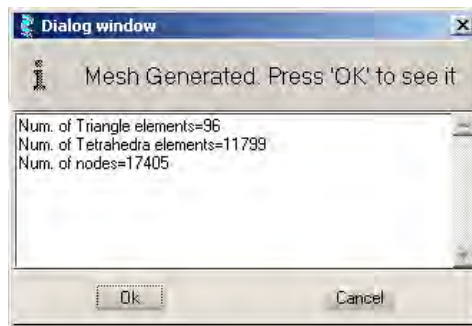

Figure 1.19 The *Dialog* window after generation of the mesh
- After the mesh has been created the *Dialog* window will appear showing the number of created triangle elements (corresponding to plate and interface elements), tetrahedral element (corresponding to soil elements) and the total number of nodes (see Figure 1.19). As the mesh will be generated in a non-deterministic way, the number of nodes and elements may be different. Instead of points, lines, surfaces and volumes the created mesh is now shown.